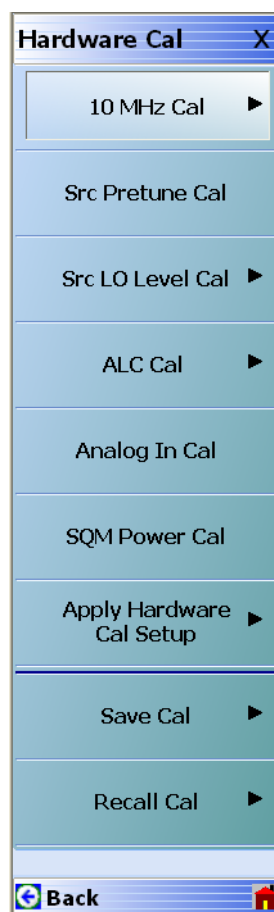

Figure 5-8. HARDWARE CAL Menu
15. Select Hardware Cal to access the Hardware Cal Menu as shown in Figure 5-8.